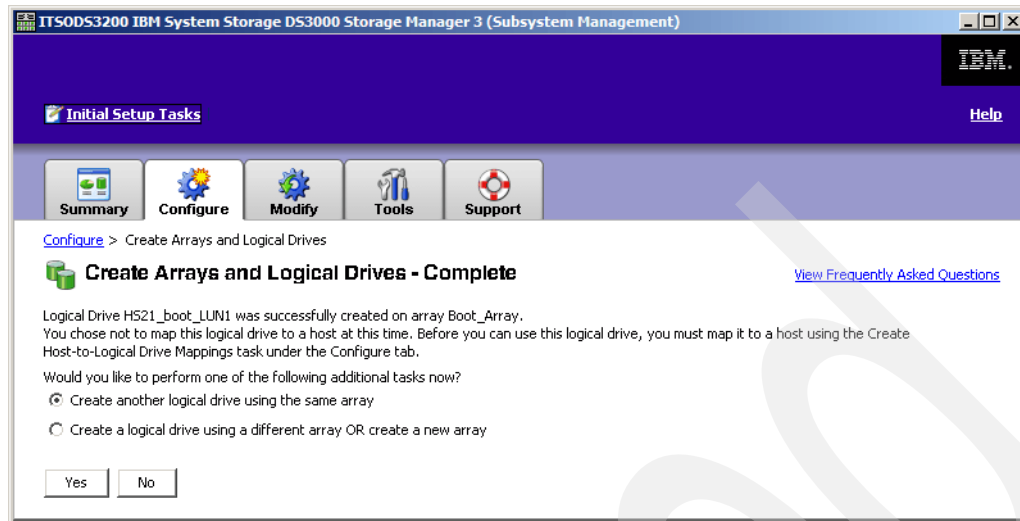

Figure 20-24 Logical drive completion
9. Click **No** to the question shown in Figure 20-24 on page 463 to complete the boot volume setup.